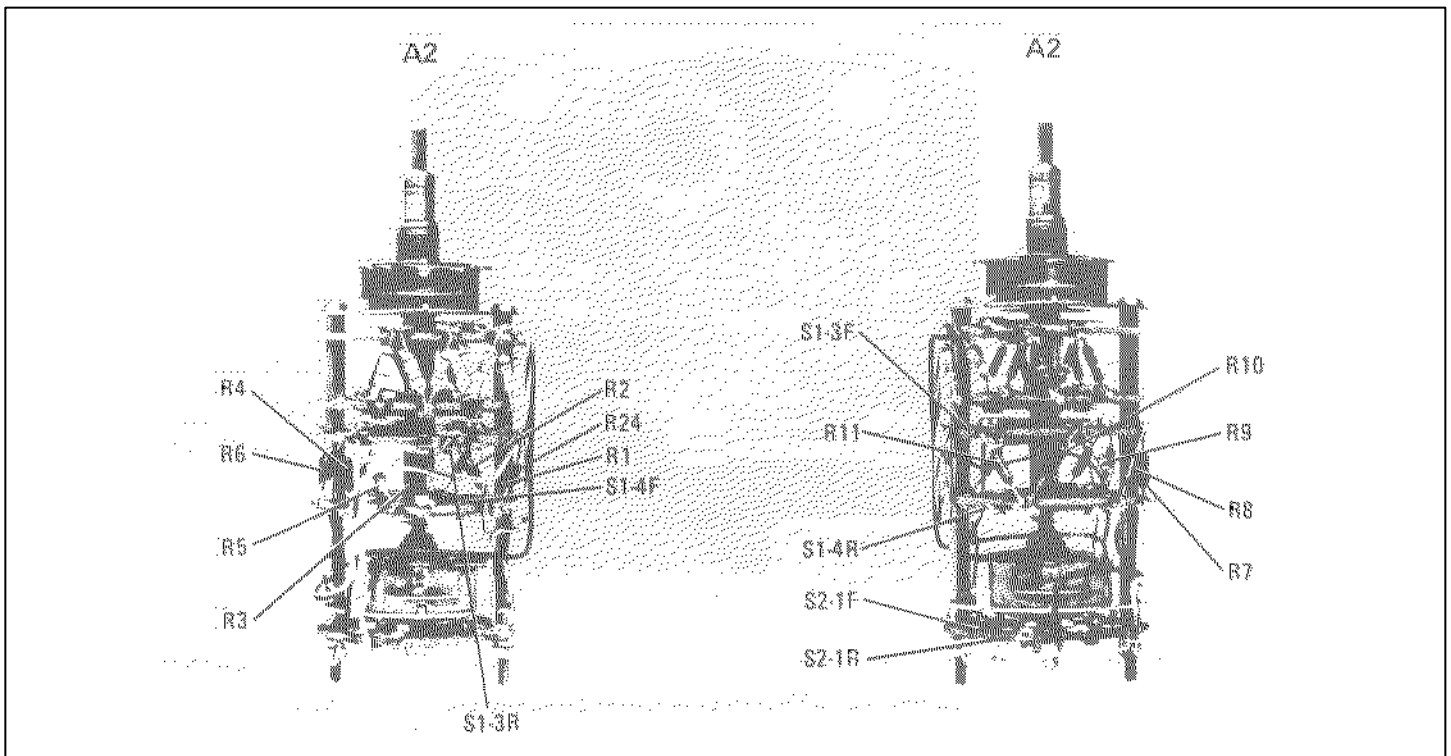

Figure 8-36. Scan Width Switch Assembly-A2 Component Locations (Part of CHANGE 6)
- Replace Figure 8-36 with Figure 8-36 shown in this supplement.